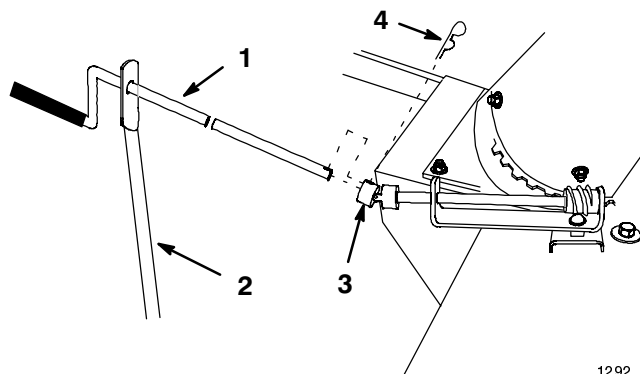

Figure 14
3. Remove hairpin cotter at U-joint and slide crank handle out of support (Fig. 14).